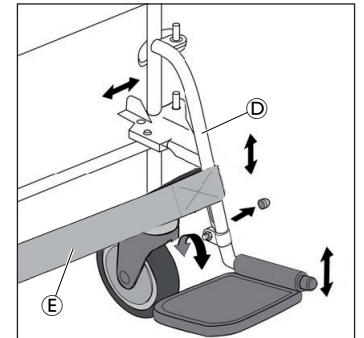

Fig. 5
7. Guide the calf strap (E) to the desired height, fasten it in front of and behind the footrests (D) on both sides with the Velcro tape (Fig. 5).